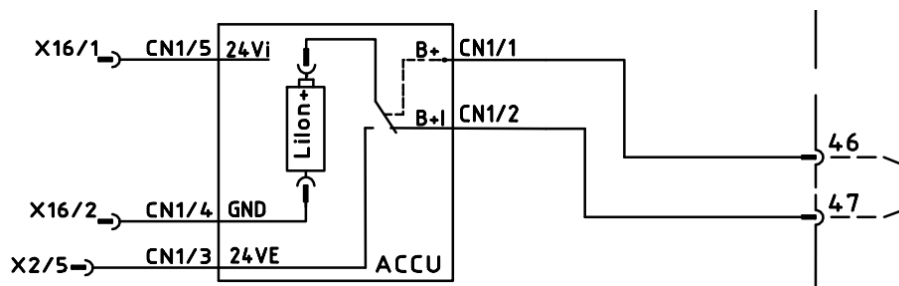

Figure 7.2: Example terminal plan extract using the connections 46, 47 to activate the battery backup.
- - Upon delivery, the battery backup is deactivated. Activation requires a shorting link at the customer connection in compliance with the terminal plan (refer to figure 7.2). In the terminal plan extract, used as an example, connections 46, 47 are used.